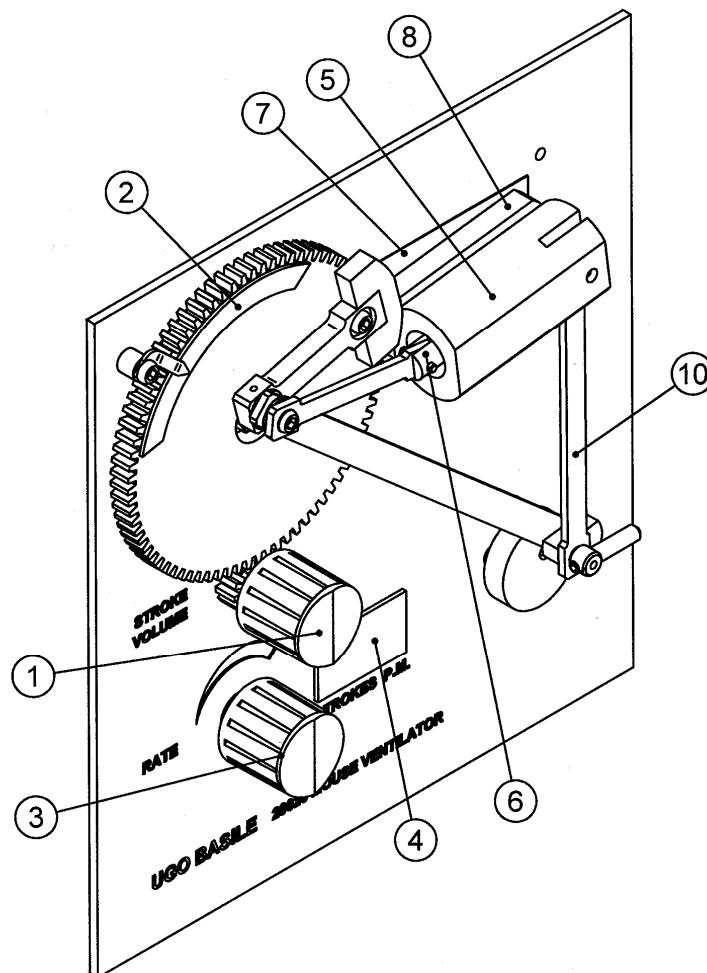

Figure 1 "Basic Layout"
Figure 1 "Basic Layout"	1
- a) The **tidal volume**, in the range 0.1 - 1 ml (or 0.05 - 0.5 ml when the smaller cylinder/piston is installed) can be selected via the knob (1) either while the pump is running or at a standstill. The stroke volume scale (2) is ample, provided with precise engraved marks. See Figure 1 "Basic Layout".
- b) The **rate**, selected by the knob (3) is indicated by a 3-digit solid state display (4), in the range 60-300 strokes per minute.
A D.C. geared motor which embodies a miniature tachometer to provide a precise speed control is coupled to an interchangeable cylinder/piston assembly, via a unique variable stroke linkage (see the colour picture, Figure 1 “Basic Layout” and Figure 6 “Lubrication”) whose features are listed below:-
The stroke volume is adjusted by the knob (1) on the front panel, see Figure 1 “Basic Layout”, and is indicated on the scale (2).